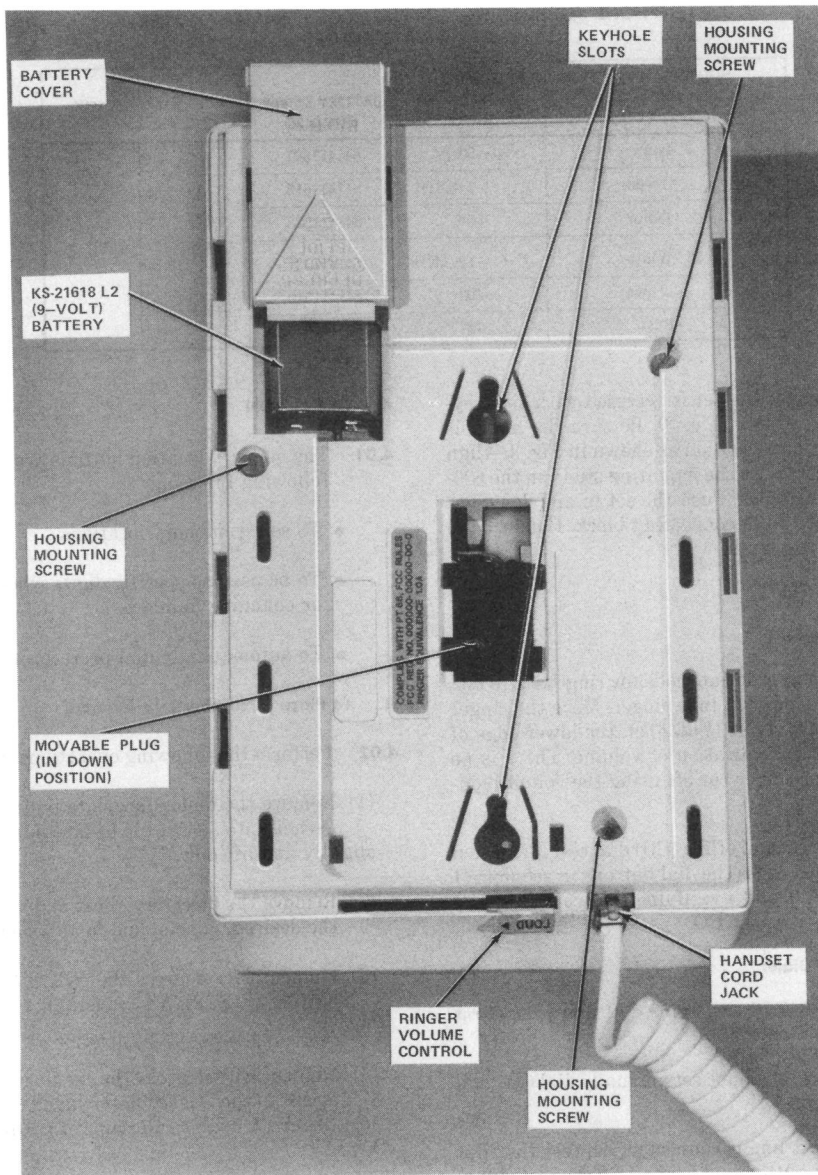

Fig. 3—5011T01A Telephone Set, Bottom View
3.01 The telephone set is shipped with a 9-volt alkaline battery, to be connected at the time of installation. Remove the battery cover on the rear of the set and make the necessary connections. Place the battery in the battery compartment and close the cover (Fig. 3).
3.03 The rear of the set is recessed with two keyhole type slots (Fig. 3). Be sure the movable plug is in the down position as shown in Fig. 3. Align the keyhole slots with the mounting studs on the 630-type connecting block. Push the set in and down engaging the set to the connecting block. Connect the handset cord to the set.
- (1) Dial the appropriate code for ring-back to test the telephone set tone ringer. Move the ringer volume control lever (Fig. 3) on the lower edge of the set to check variation of volume. There is no provision for ringer cut off using the volume control.
- (2) Call the central office (CO) dial test line, when connected press the dial buttons in sequence 1 through 9, *, 0, and # verifying that correct signal is returned from the CO.